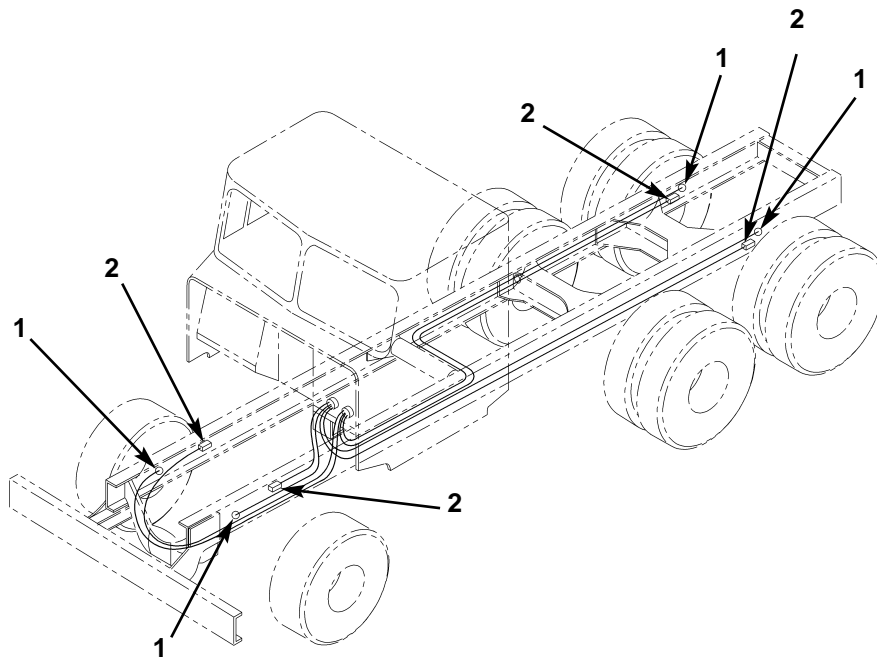

Figure 6. Connecting Rear Wheel Sensor and Modulator Harnesses.
3. Route ends of speed sensor harness (figure 6, item 1) and modulator harness (figure 6, item 2) to left front, right front, left rear, and right rear locations as depicted in figure 6.
4. Secure sensor harness (figure 6, item 1) and modulator harness (figure 6, item 2) with new tie straps during installation along chassis frame.